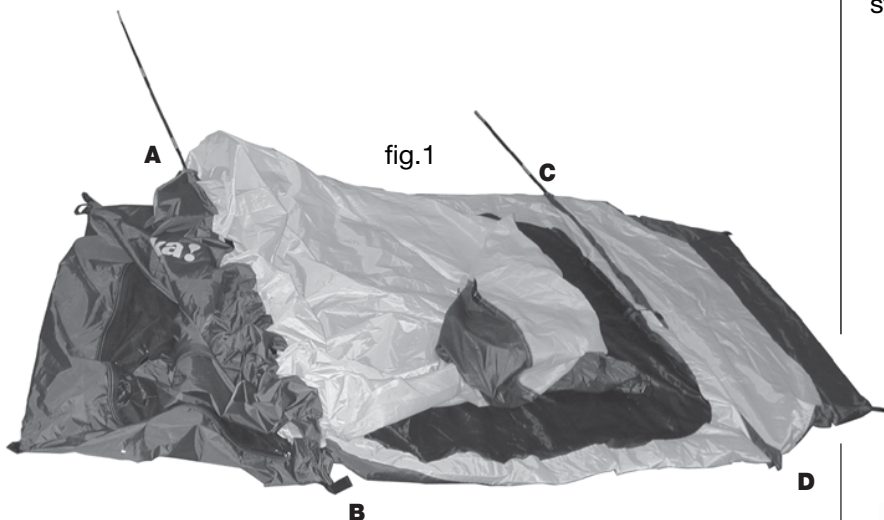
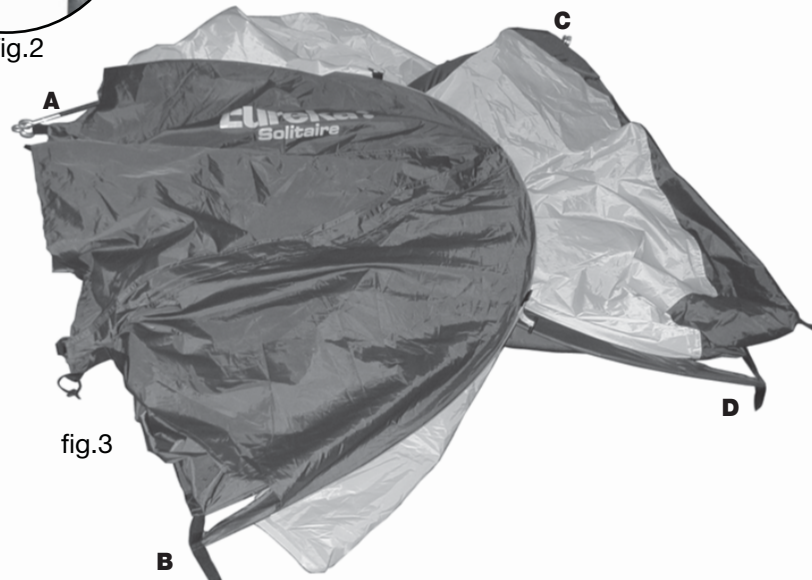

fig.2
fig.3
- With the pole in one hand and pin & ring in the other, feed the pole up. Make sure the ferrules do not get caught on the sleeves. Push the pole from **C** to **D** evenly along its length to create an arc. Place the pin into the end of the pole to maintain tension across the seam line. See fig.2. Repeat with the longer pole from **A** to **B** at the front of the tent. See fig 3.